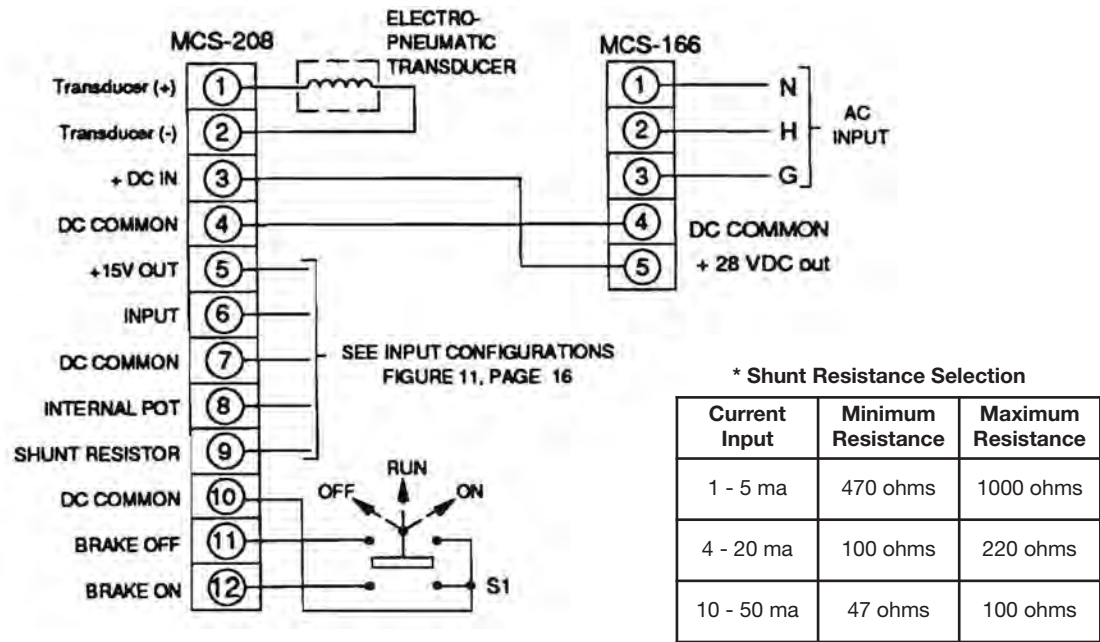

Figure 10. MCS 166/MCS-208 Wiring - Single or Dual Brake
NOTE: If only a single brake-off function is used, an SPST maintained contact switch may be used. If both functions are used, a three position switch is recommended, as shown in Figure 10, page 11.
- 6. Double check all wiring connections per Figures 10 & 11 for accuracy and tightness.
- 7. Reconnect the front housings if either wall or shelf mounting is used. Secure the latches. If shelf mounting is used, secure the housings with the four (4) bolts for each section.